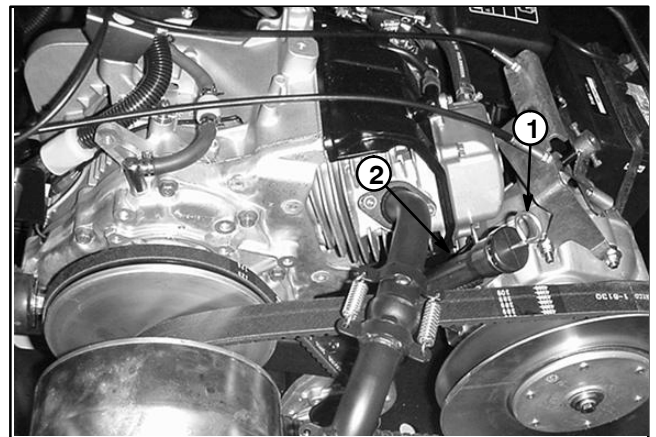

Figure 7
6. Pour oil into filler tube until the oil level is up to the "FULL" mark on the dipstick. Add oil slowly and check level often during this process. **Do not overfill (Fig. 7).**
7. Install dipstick firmly in place (Fig. 7).